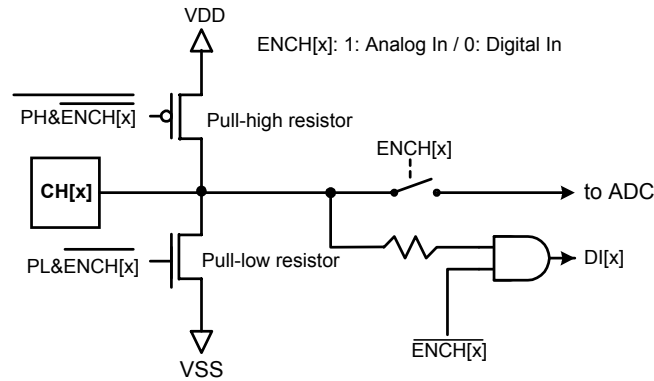

Figure9 Circuit diagram of the Input Channel PAD
1. If a channel is programmed to analog input mode, then the corresponding internal signal, ENCH[x],=1. As in Figure9, pull-high and pull-low are disabled. And the path to digital input is blocked. All digital reading operation of this channel will get the result "0".
2. If a channel is programmed to digital input mode, then the corresponding internal signal, ENCH[x],=0. As in Figure9, the path to ADC is removed.
3. While in digital input mode, this input port can be configured to be floating, weak pull up, or pull down by setting the control register PH and PL as Figure9, where PH&PL=1 is forbidden. The weak pull resistance is about 500KΩ@3v.